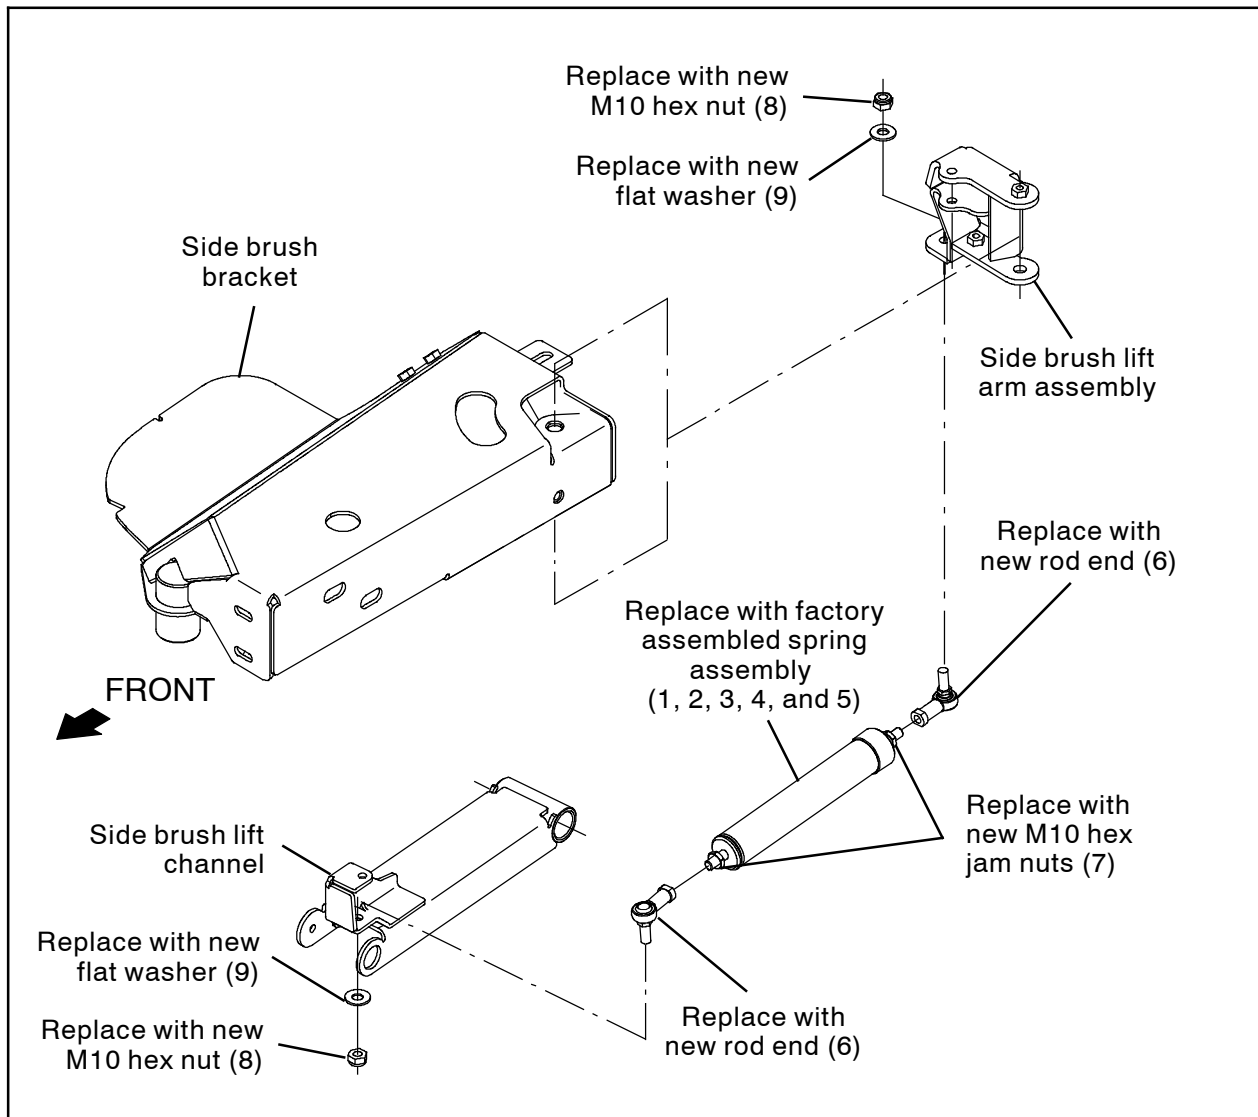

FIG. 1
1. Remove the existing spring assembly from the side brush assembly. Discard the spring assembly and all mounting hardware (hex nuts, flat washers, and rod ends). (Fig. 1)
2. Thread the M10 jam nuts (7) onto the spring assembly (1). (Fig. 1)
3. Thread the rod ends (6) onto the spring assembly (1). (Fig. 1)
4. Use two M10 hex nuts (8) and two flat washers (9) to install the spring assembly (1) onto the machine. Adjust the rod ends (6) as necessary to correctly position the spring assembly in the side brush assembly. (Fig. 1)
5. Tighten the M10 jam nuts (7) against the rod ends (6). (Fig. 1)